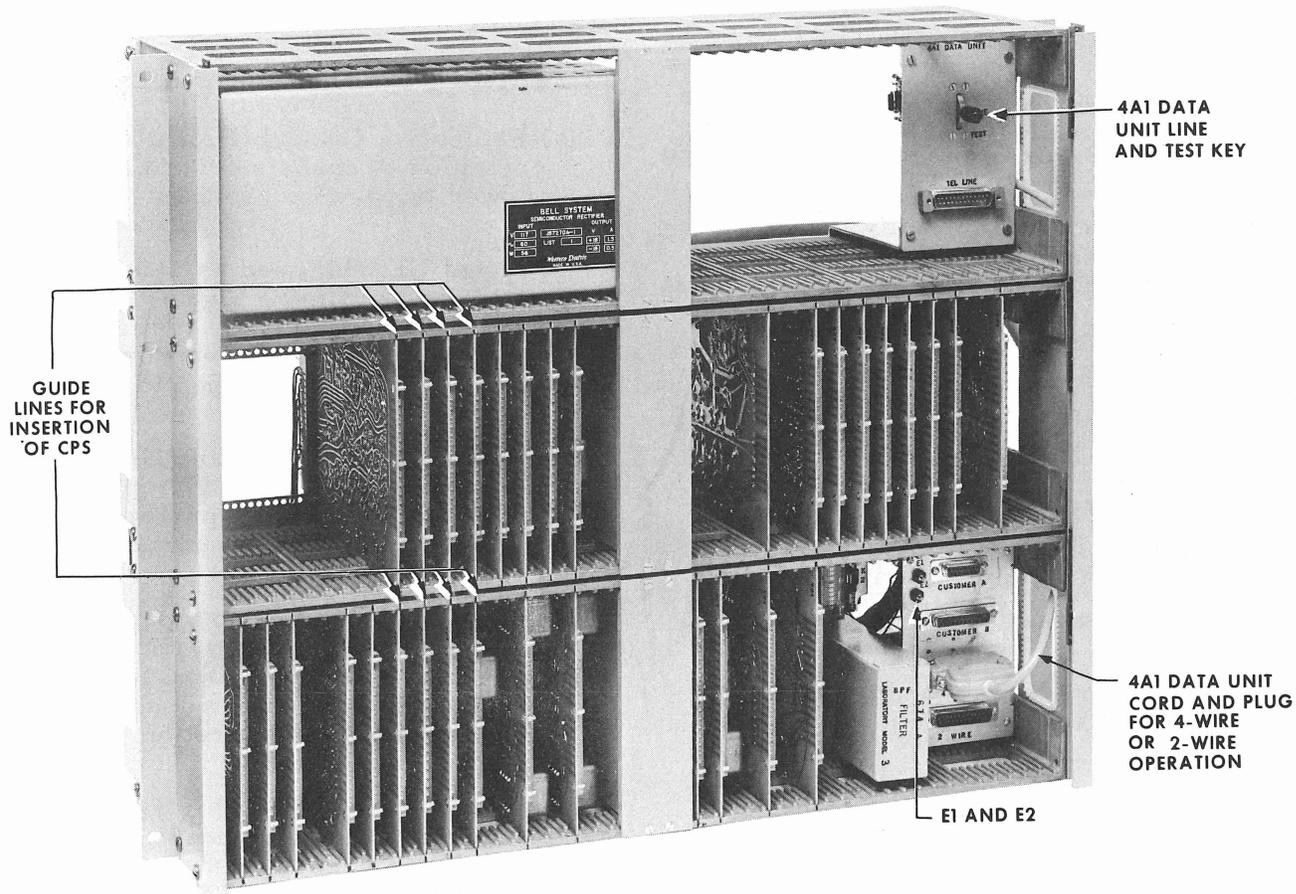

Fig. 1 - Data Set 205A, Front View
2.02 Fig. 1 is a front view of the data set 205A with the circuit board retaining covers removed. This is a shop model, production models may vary.